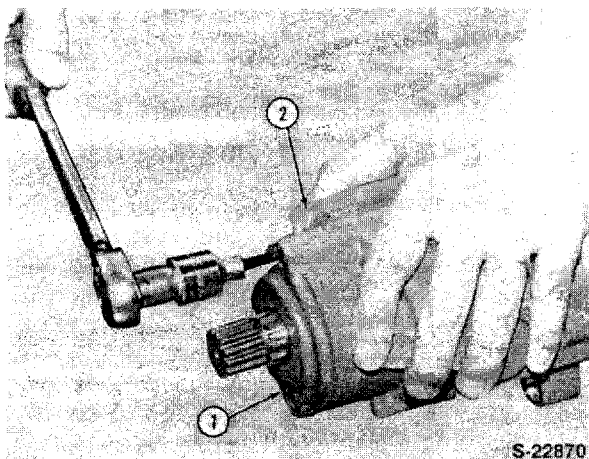

Figure 50
1. Remove the three hexagon socket type bolts retaining the cover to the housing and remove the cover, Figure 50.